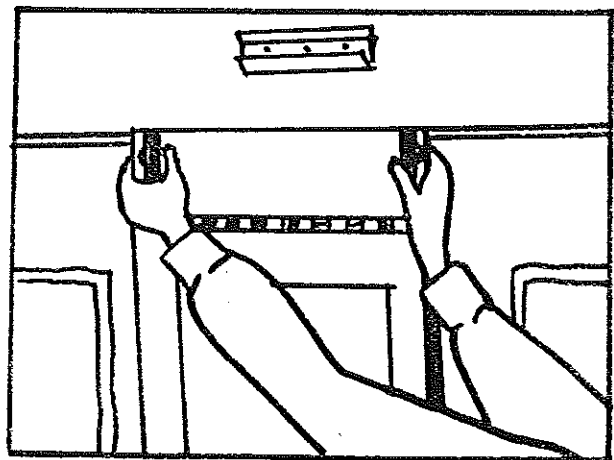

FIGURE 17
27. Fit the top door retainer into position and engage the two retainer locks. See Figure 17.